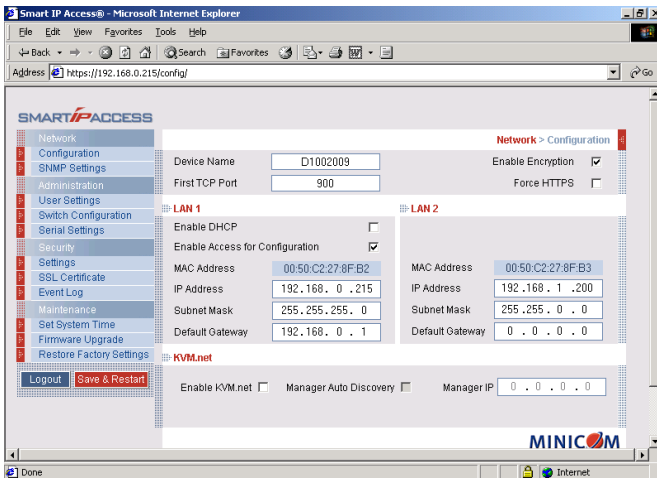

Figure 6 Smart IP Access Web interface
4. Press **Enter**. The Web interface appears. See Figure 6.
The Smart IP Access Web interface opens at the Network configuration page. See Figure 6 above.